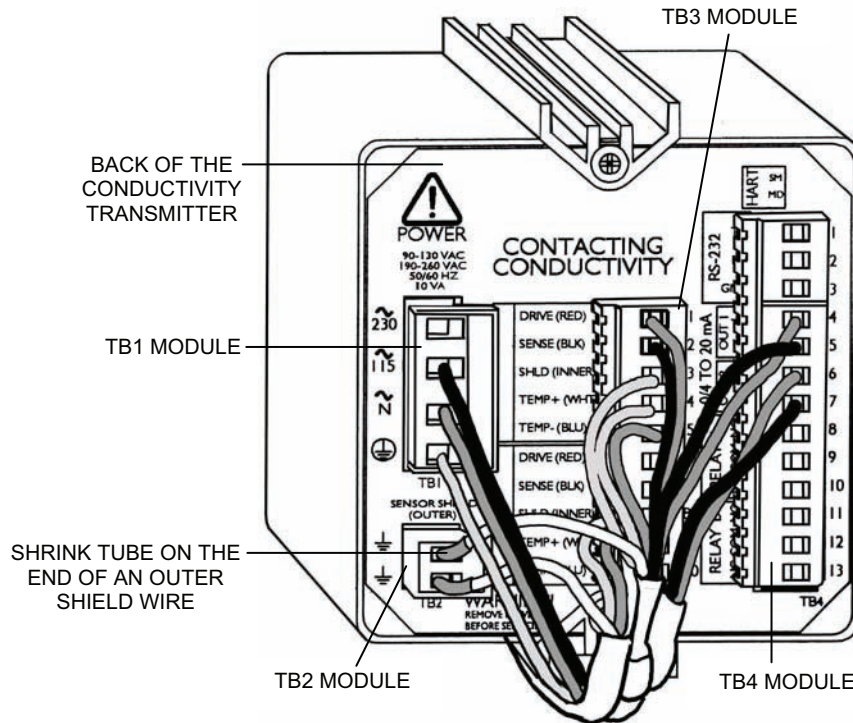

Figure 10. Conductivity Sensor Wiring Connections to the Conductivity Transmitter.
- f. Disconnect the sensor outer shield wire from module TB2 and the sensor red, black, inner shield, white, and blue wires from module TB3 at the back of the conductivity transmitter CIT-501 (see Figure 10).
5. Connect the sensor wiring to the back of the transmitter as follows (see Figure 10):